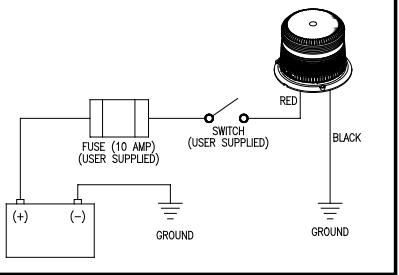

Figure 3
4. Connect the power wires as shown in the wiring section (see Figure 3).
The wiring for this configuration is as shown in Figure 3 below. All wiring should be a minimum of 18AWG. The positive line must have a 10 amp fuse, as shown. A switch may be used to control the on/off function.